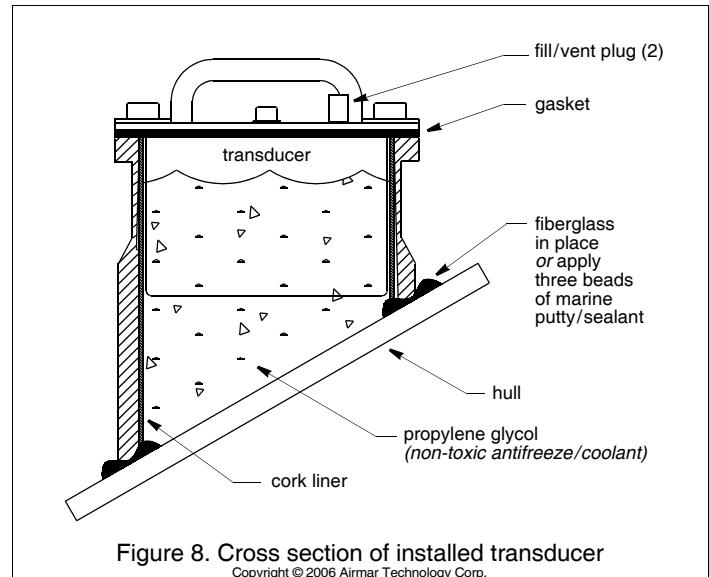

Figure 8. Cross section of installed transducer
3. Use an approved bonding material (see Tools & Materials on page 1). Glass the tank to the hull with fiberglass resin, using standard fiberglass technique. Alternatively, apply a generous bead of marine putty/sealant to the bottom edge of the tank following the manufacturer's instructions (Figure 8). Press the tank firmly in place. Apply a second bead around the inside of the tank. And apply a third bead around the outside of the tank.
1. After the bonding material has cured, insert the cork liner into the tank (Figure 8). Butt the edges along the center of the tallest side. Note, there may be a gap, but this will not affect performance.